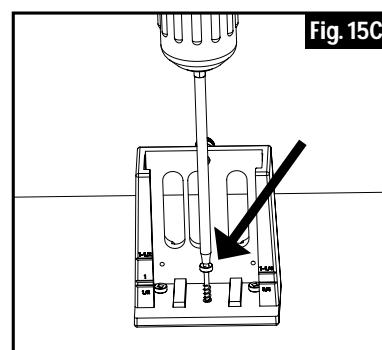

Fig. 15C
**Temporary Mounting Portable Base** (Fig. 15C)